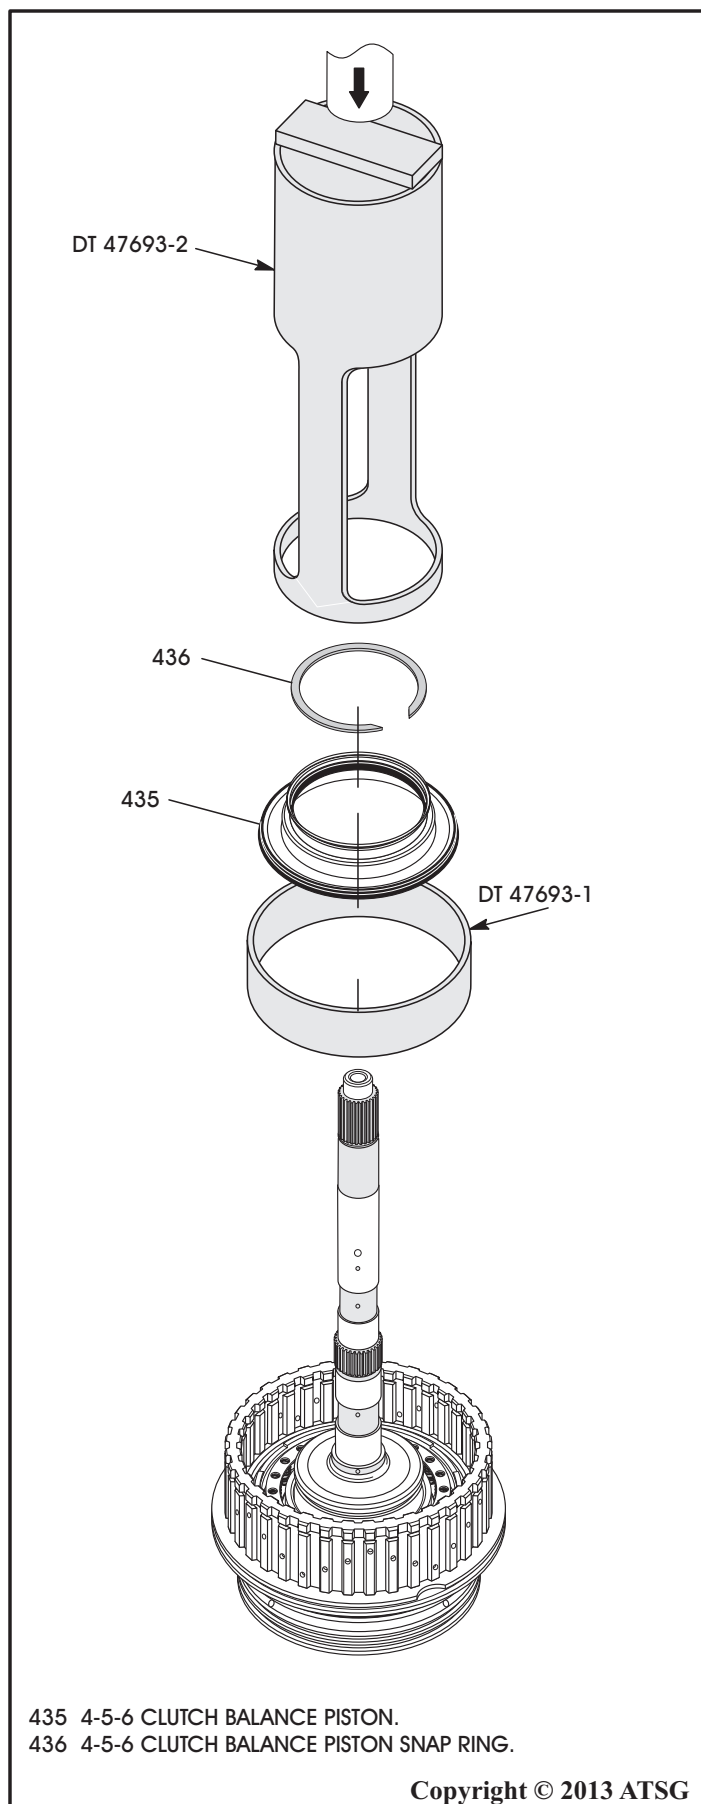

Figure 151
35. Lubricate the seals on the 4-5-6 balance piston and install into housing, as shown in Figure 151, using the seal protector DT-47963-1.
36. Use spring compressor DT-47693-2, as shown in Figure 151, to compress the return spring and install the snap ring.